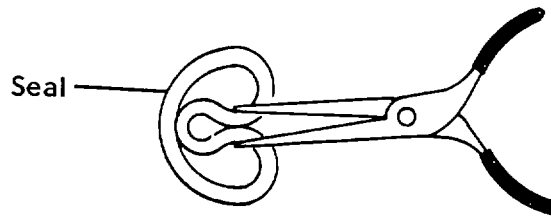

Figure 5-12. Rod Seal Installation
- a. Install o-ring (12) on rod (8).
- b. Slide the piston rings (11) over end of piston (10) and allow them to snap into grooves.
- c. Position the end gland (5) with the wiper (14) side up. Grasp the seal (15) with needle nose pliers (refer to figure 5-12).